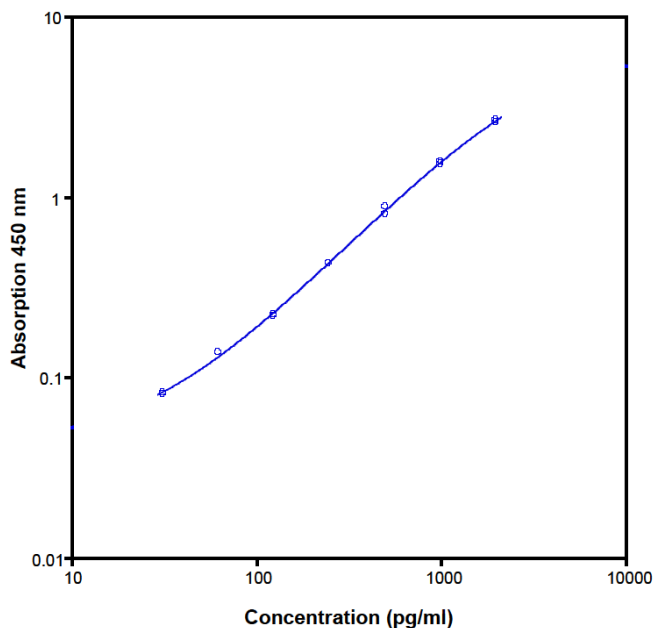

Fig. 4 Representative standard curve for mouse TNF- α ELISA. Mouse TNF- α was diluted in serial 2-fold steps in Sample Diluent.
- A representative standard curve is shown in Figure 4. This curve cannot be used to derive test results. Every laboratory must prepare a standard curve for each group of microwell strips assayed.